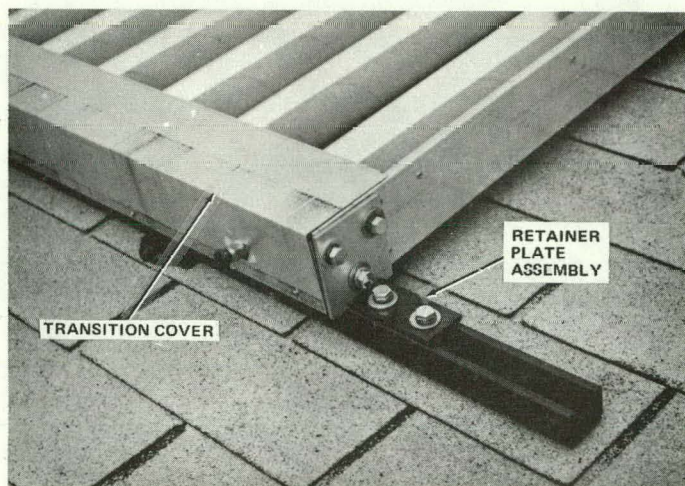

Figure 3-10. Place Collector on UNISTRUT
UNISTRUT channels (or equivalent) and retainer plate assemblies (plates, bolts, washers and spring-type nuts), (Figure 3-10), used at the ends of each row should be obtained from the mounting structure manufacturer, or obtained locally by the installing contractor.
3. Slide the collector into place so that the T-brackets grip the UNISTRUTS. Finger tighten the retainer plates to the UNISTRUTS. (Figure 3-10).
3. Slide the collector into place so that the T-brackets grip the UNISTRUT. Place one internal T-bracket (pinned), (Figure 3-9), into each UNISTRUT and insert into the corresponding holes in the collector frame. Assure the position and squareness of the collector and tighten the retainer plates (Figure 3-10) to the UNISTRUT.